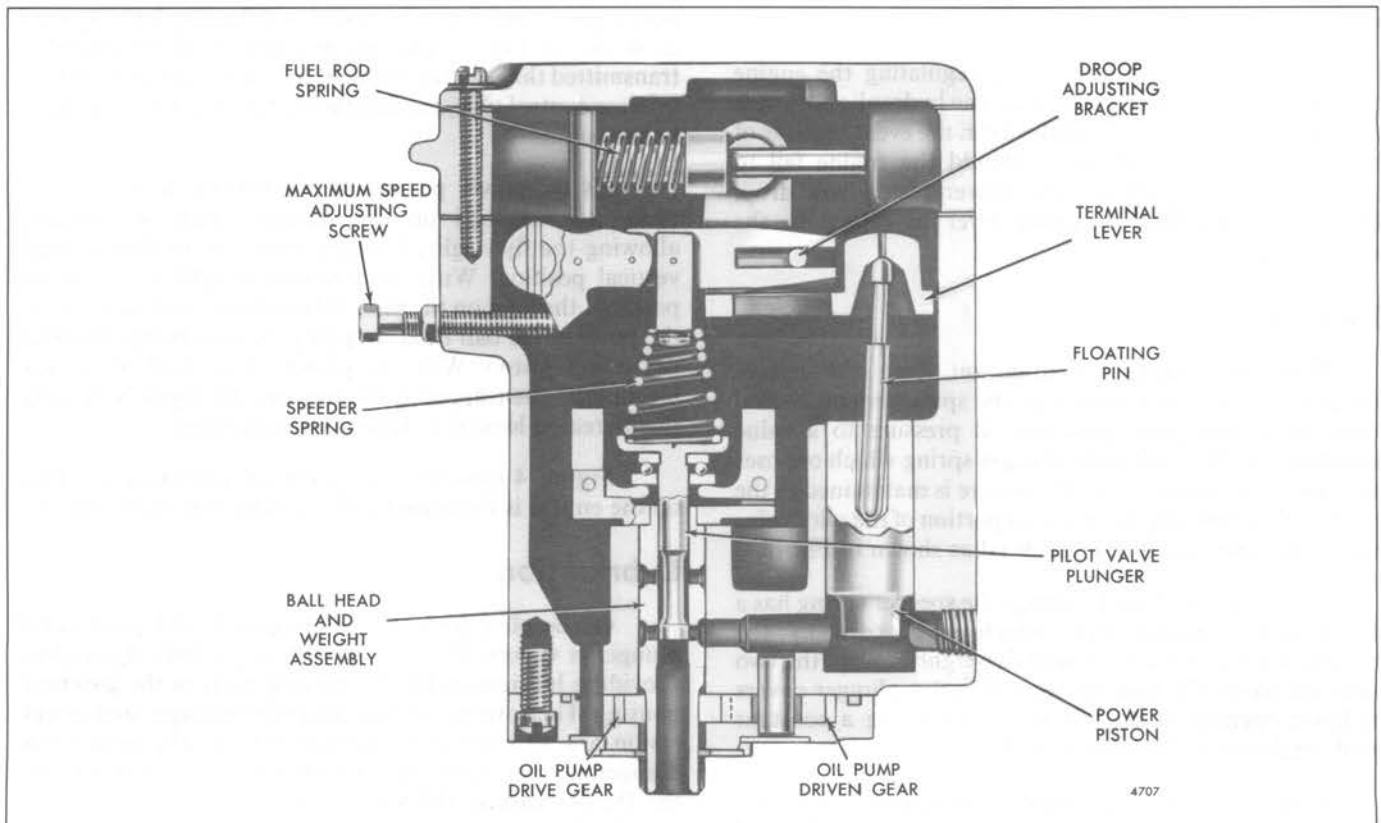

Fig. 1 – Hydraulic Governor Assembly
- b. Raise the connecting pin up in the connecting link lever (Fig. 1). Insert the end of the fuel rod between the two bosses on the lever and insert the connecting pin through the fuel rod and into the lower boss.
The governor (Fig. 1) is a hydraulic type with a speed droop stabilization mechanism. Hydraulic action is transmitted by oil admitted under pressure from the engine lubricating system to an auxiliary oil pump in the governor. The auxiliary pump then develops the oil pressure necessary to actuate the governor mechanism.
Refer to Figs. 1 and 12 for the location of the various parts and disassemble as follows: